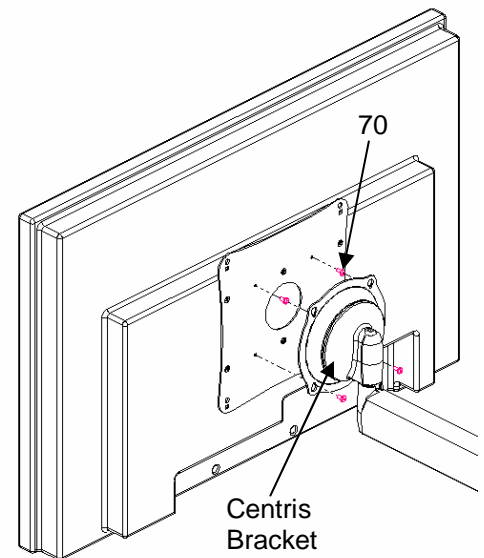

Figure 9. Attach Display to Centris Bracket
1. Start two M4 x 8mm Phillips pan head screws (70) into top mounting holes on interface bracket (20).
2. Align mounting holes on Centris bracket with screws installed in Step 1 (see Figure 9).
3. Install remaining two M4 x 8mm Phillips pan head screws (70) into bottom mounting holes of Interface Bracket (20).